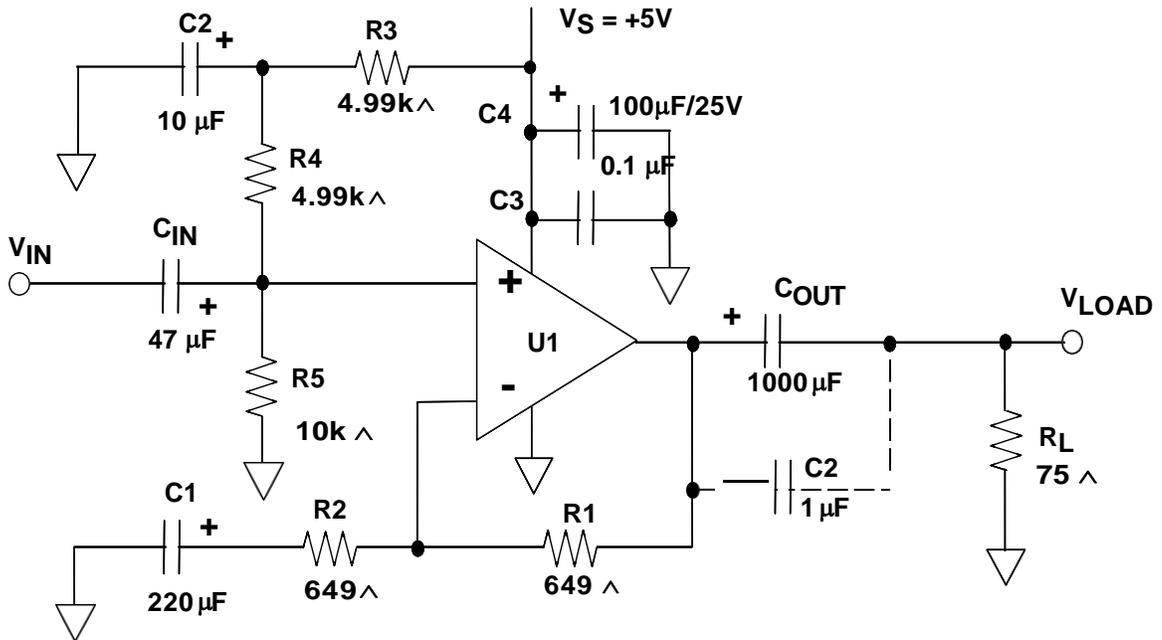
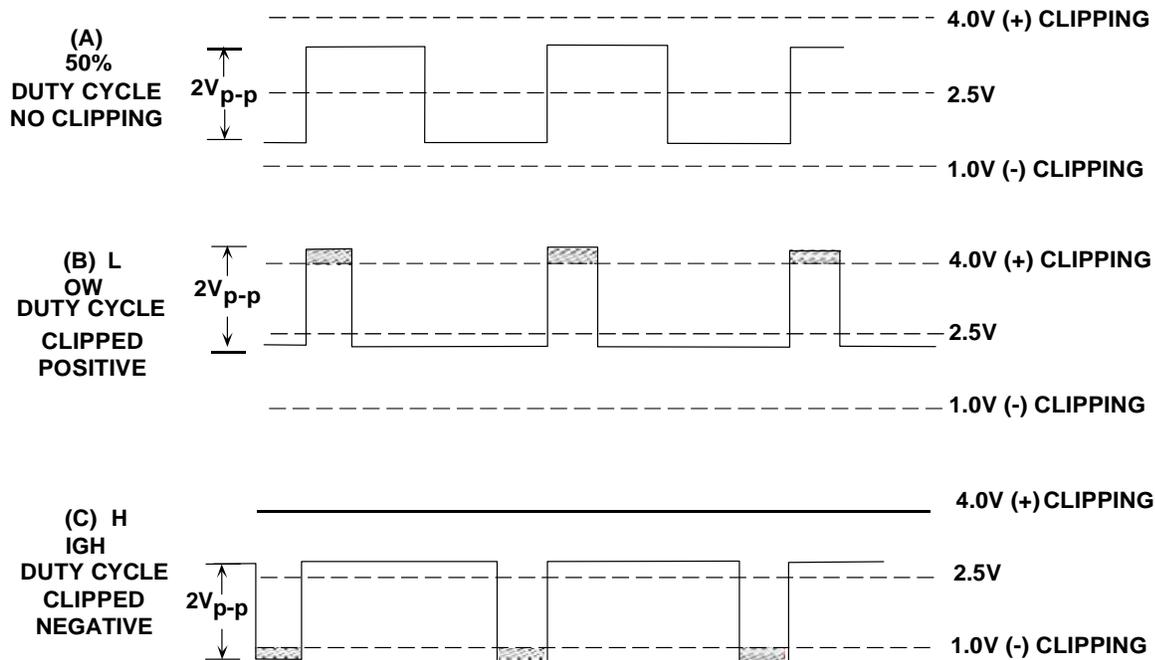

Figure 1.25: Single Supply Biasing
Fig. 1.26: Headroom Issues with Single-Supply Biasing
AC coupling is simply applying a high-pass filter and establishing a new reference level typically somewhere around the center of the supply voltage range. See Figure 1.25. The series capacitor will block the dc component of the input signal. The corner frequency (the frequency at which the response is 3 dB down from the midband level) is determined by the value of the components:
In an amplifier circuit such as that of Figure 1.25, the output bias point will be equal to the dc bias as applied to the op amp's (+) input. For a symmetric (50% duty cycle) waveform of a 2 V p-p output level, the output signal will swing symmetrically about the bias point, or nominally $2.5 \text{ V} \pm 1 \text{ V}$ (using the values give in Fig. 1.25). If, however, the pulsed waveform is of a very high (or low) duty cycle, the ac averaging effect of C_{IN} and $R4 \parallel R5$ will shift the effective peak level either high or low, dependent upon the duty cycle. This phenomenon has the net effect of reducing the working headroom of the amplifier, and is illustrated in Figure 1.26.
In Figure 1.26 (A), an example of a 50% duty cycle square wave of about 2 V p-p level is shown, with the signal swing biased symmetrically between the upper and lower clip points of a 5 V supply amplifier. This amplifier, for example, (an AD817 biased similarly to Figure 1.25) can only swing to the limited dc levels as marked, about 1 V from either rail. In cases (B) and (C), the duty cycle of the input waveform is adjusted to both low and high duty cycle extremes *while maintaining the same peak-to-peak input level*. At the amplifier output, the waveform is seen to clip either negative or positive, in (B) and (C), respectively.